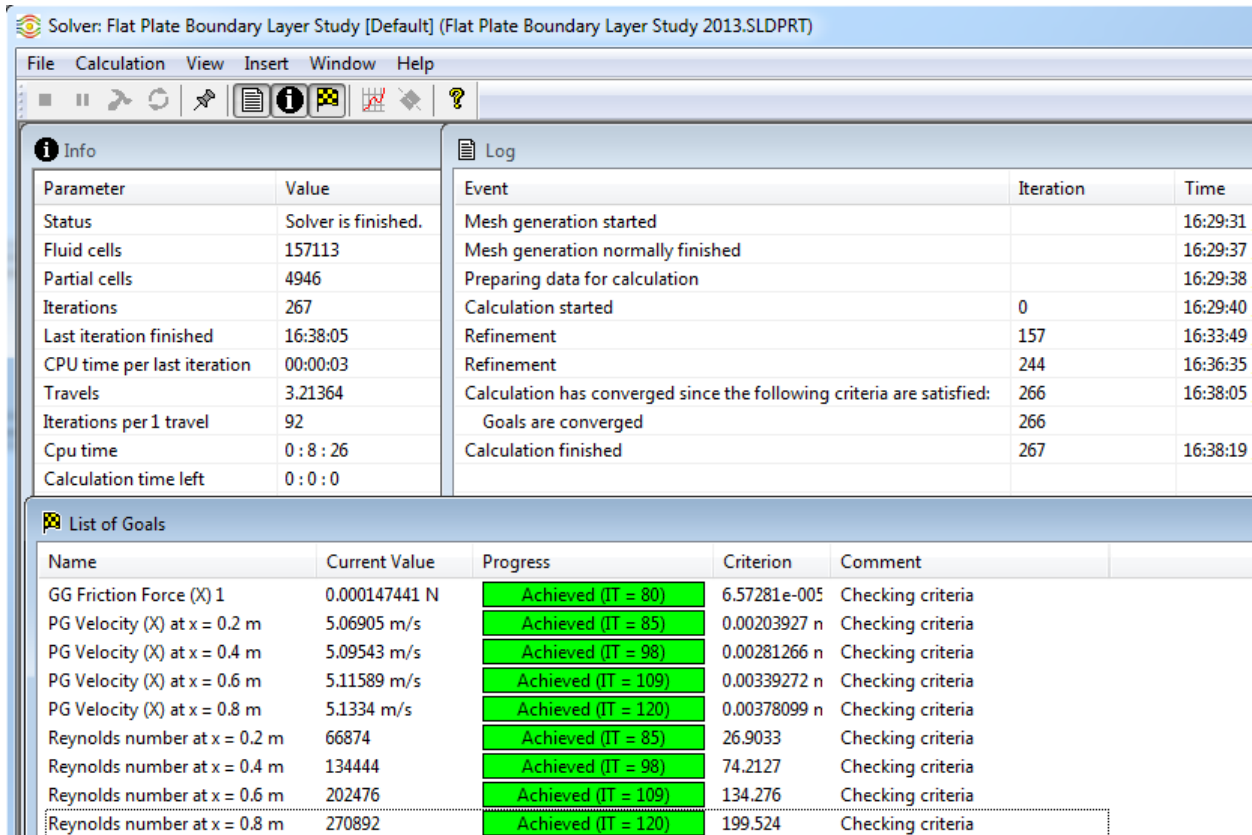
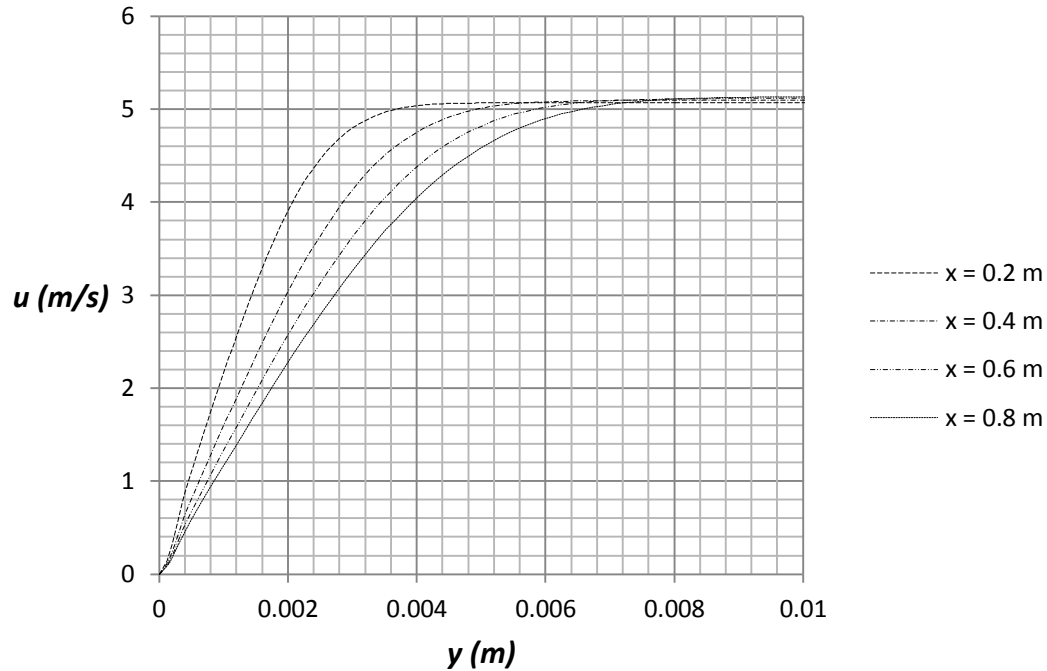
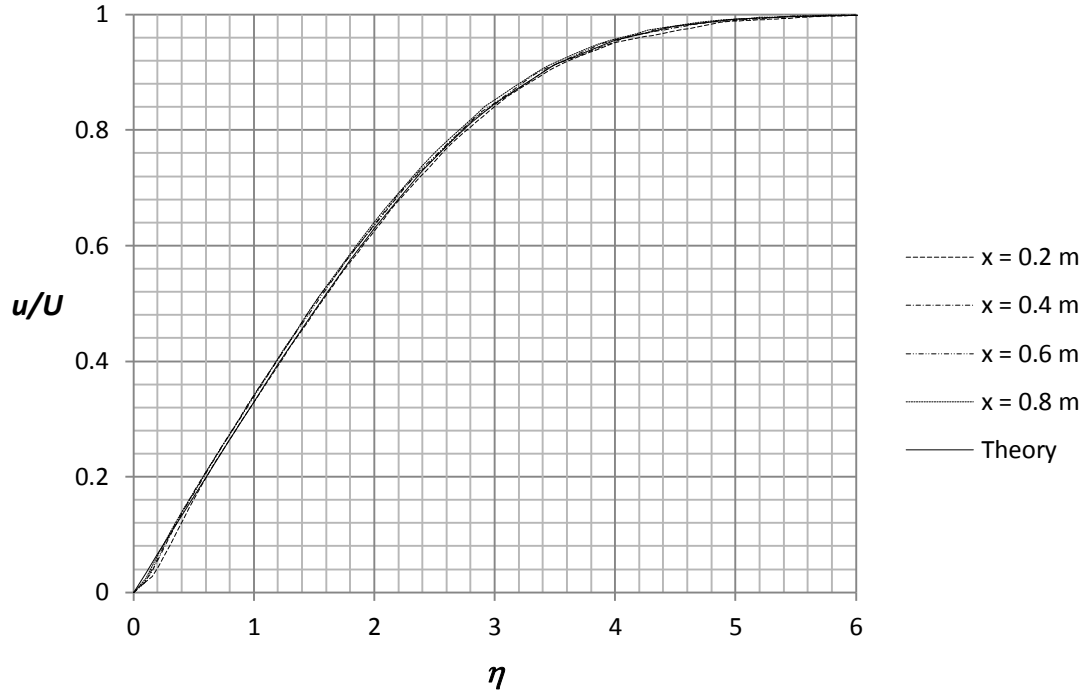

Figure 2.22c) Solver window
Figure 2.24c) Boundary layer velocity profiles on a flat plate at different streamwise positions
Figure 2.25a) Velocity profiles in comparison with the theoretical Blasius profile (full line)
24. Place the file “xy-plot figure 2.24c)” into the **Local Disk (C:)/Program Files /SolidWorks Corp/SolidWorks Flow Simulation/lang/english/template/XY-plots** folder to make it available in the **Template** list. Click on the  **FeatureManager design tree**. Click on the sketch **x = 0.2, 0.4, 0.6, 0.8 m**. Click on the  **Flow Simulation analysis tree** tab. Right click **XY Plot** and select **Insert....** Check the **Velocity (X)** box. Open the **Resolution** portion of the **XY Plot** window and slide the **Geometry Resolution** as far as it goes to the right. Click on the **Evenly Distribute Output Points** button and increase the number of points to **500**. Open the **Options** portion and check the **Display boundary layer** box. Select the template “xy-plot figure 2.24c)” from the drop down menu. Click **Export to Excel** to create the **XY Plot** window. An Excel file will open with a graph of the velocity in the boundary layer at different streamwise positions, see figure 2.24c). Rename the inserted xy-plot in the **Flow Simulation analysis tree** to **Laminar Velocity Boundary Layer**.
26. Place the file “xy-plot figure 2.25a)” into the **Local Disk (C:)/Program Files /SolidWorks Corp/SolidWorks Flow Simulation/lang/english/template/XY-plots** folder to make it available in the **Template** list. Repeat step 24 and select the new template for the XY-plot. Rename the xy-plot to **Comparison with Blasius Profile**.
We see in figure 2.25a) that all profiles at different streamwise positions collapse on the same Blasius curve when we use the boundary layer similarity coordinate.
From the data of figure 2.24c) we can see that the thickness of the laminar boundary layer is close to 3.80 mm at  $Re_x = 66,874$  corresponding to  $x = 0.2$  m. The free stream velocity at  $x = 0.2$  m is  $U = 5.069$  m/s, see figure 2.22c) for list of goals in solver window, and 99% of this value is  $U_\delta =$
5.018 m/s. The boundary layer thickness  $\delta = 3.80$  mm from Flow Simulation was found by finding the  $y$  position corresponding to the  $U_\delta$  velocity. This value for  $\delta$  at  $x = 0.2$  m and corresponding values further downstream at different  $x$  locations are available in the Plot Data for Figure 2.25a). The different values of the boundary layer thickness can be compared with values obtained using equation (3). In table 2.1 are comparisons shown between boundary layer thickness from Flow Simulation and theory corresponding to the four different Reynolds numbers shown in figure 2.24c). The Reynolds number varies between  $Re_x = 66,874$  at  $x = 0.2$  m and  $Re_x = 270,892$  at  $x = 0.8$  m.
The average friction coefficient over the whole plate  $C_f$  is not a function of the surface roughness for the laminar boundary layer but a function of the Reynolds number based on the length of the plate  $Re_L$ , see figure E3 in Exercise 8 at the end of this chapter. This friction coefficient can be determined in Flow Simulation by using the final value of the global goal, the X-component of the Shear Force  $F_f$ , see figure 2.22c) and dividing it by the dynamic pressure times the area  $A$  in the X-Z plane of the computational domain related to the flat plate.